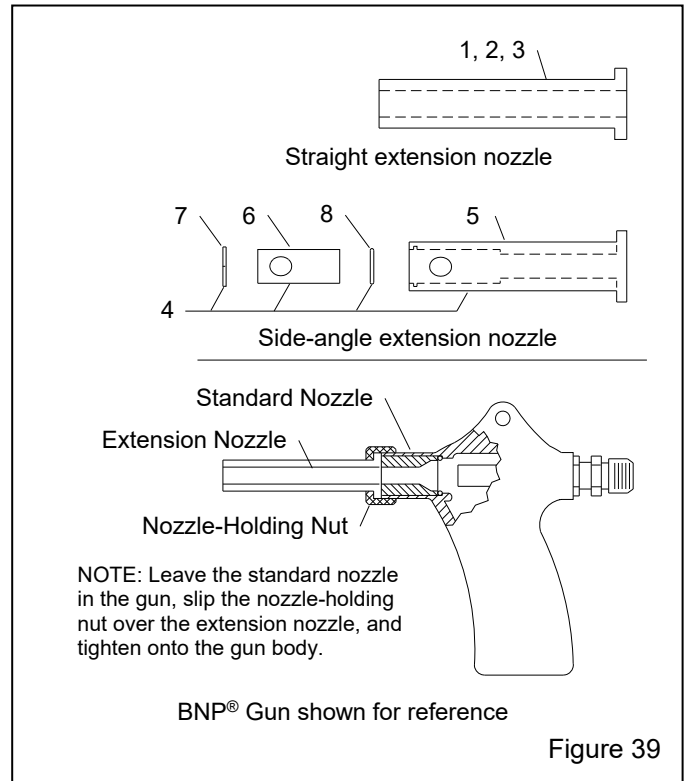

Figure 39
**Optional Extension Nozzles – Figure 39**